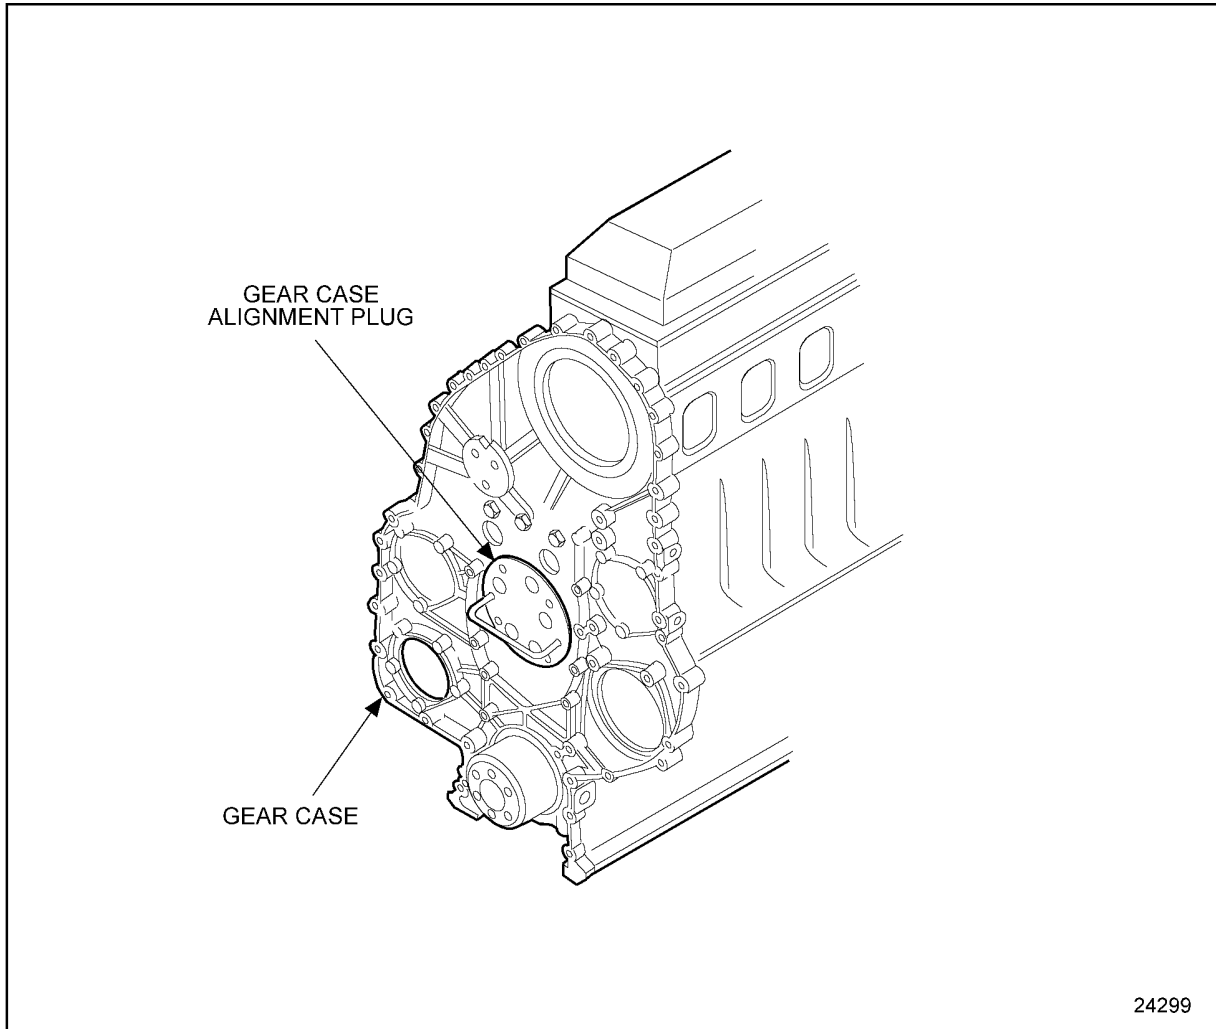

Figure 1-186 Gear Case Positioning
4. With the gear case alignment plug fully seated, the gear case centered on the alignment plug and the diamond dowel in the cylinder block indexed with its mating hole in the gear case, the gear case is positioned properly for bolt installation. See Figure 1-186.